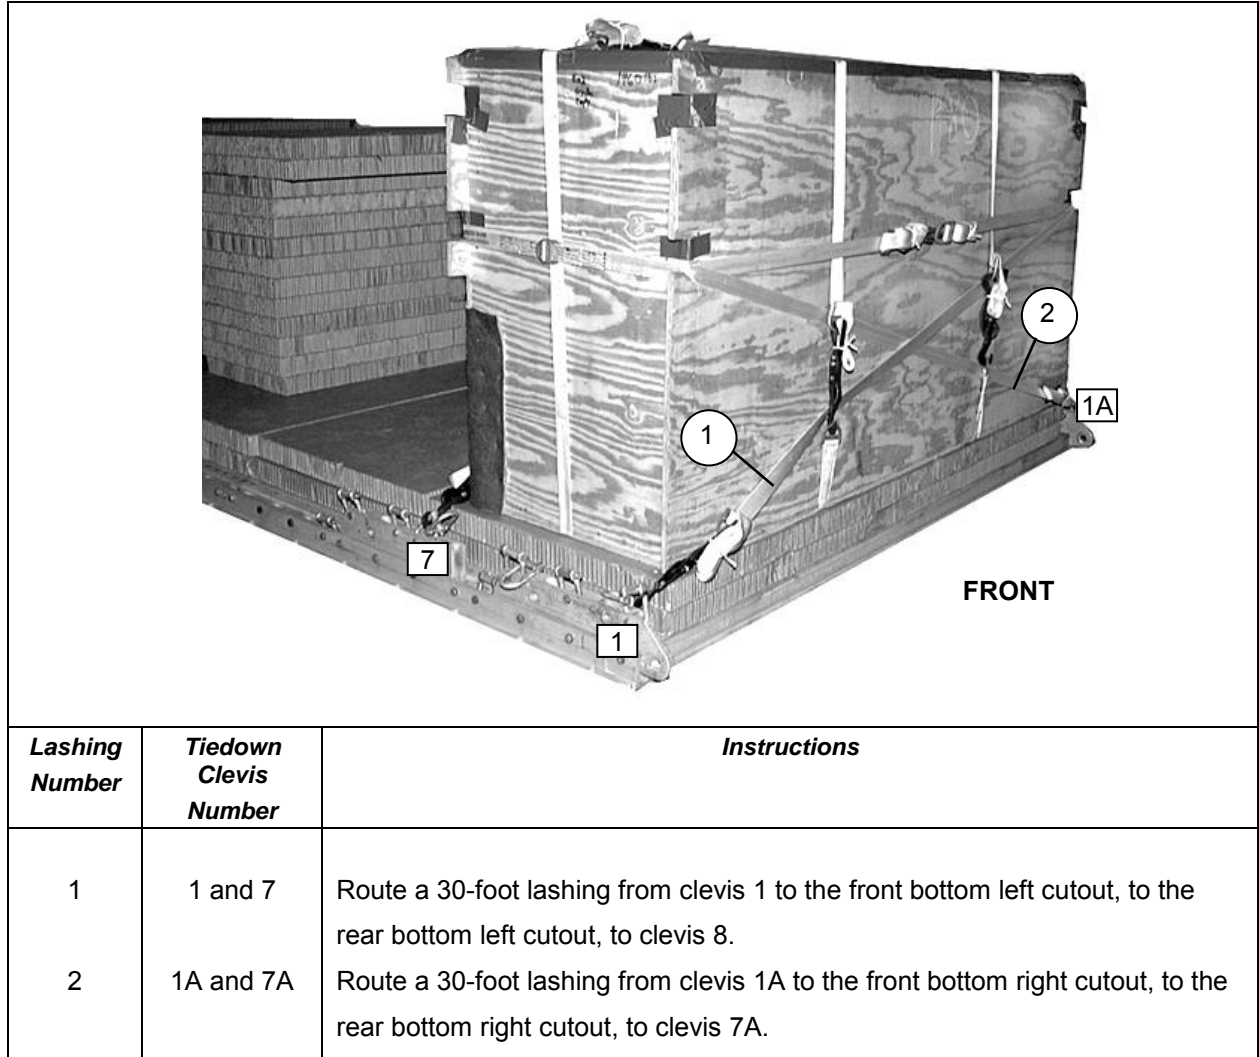

Figure 22-4. Lashings 1 and 2 Installed
22-9. Lash the equipment boxes as shown in Figures 22-4 through 22-9.
- Lash the front equipment box to the platform as shown Figures 22-4 through 22-6.